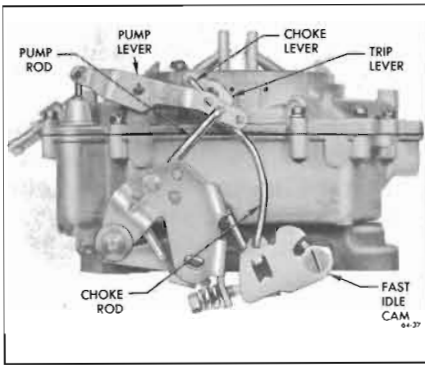

Figure 64-37—Exterior Linkage
1. Remove spring clip from upper end of intermediate choke rod and disengage rod from choke shaft lever. See Figure 64-37.
3. Remove choke trip lever and attaching screw. Disengage choke lever and collar assembly from choke shaft and disengage lower end of choke rod from fast idle cam. Then remove choke lever and collar, and choke rod as an assembly. See Figure 64-37.
26. Install choke rod, and choke lever and collar assembly. Install choke trip lever on end of choke shaft with "RP" out and tighten attaching screw. See Figure 64-37.